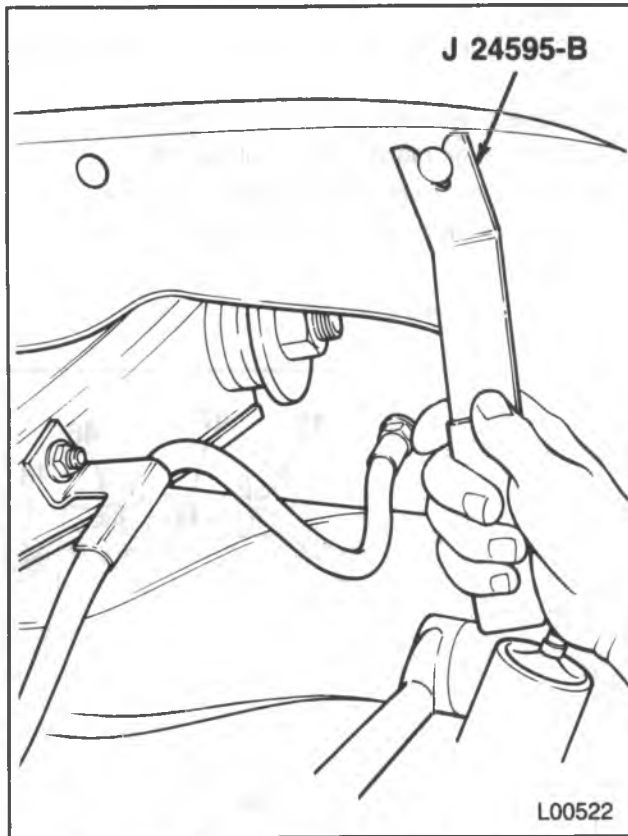

Figure 10 — Removing Shield Retainers
3. Right or left radiator grille molding nuts (34).
5. Right or left radiator grille molding (36).
6. Lower radiator grille to fender bolts (38).
9. Radiator support to fender bolts (119).
11. Shield to underbody retainers using J 24595-B (figure 10).
13. Wheelhouse panel to fender bolts (50).
14. Lower door pillar to fender bolt (45) and shim(s) (46).
15. Fender to cowl bolt (47) and shim(s) (46).
16. Upper fender to door pillar bolt (48) and shim(s) (46).